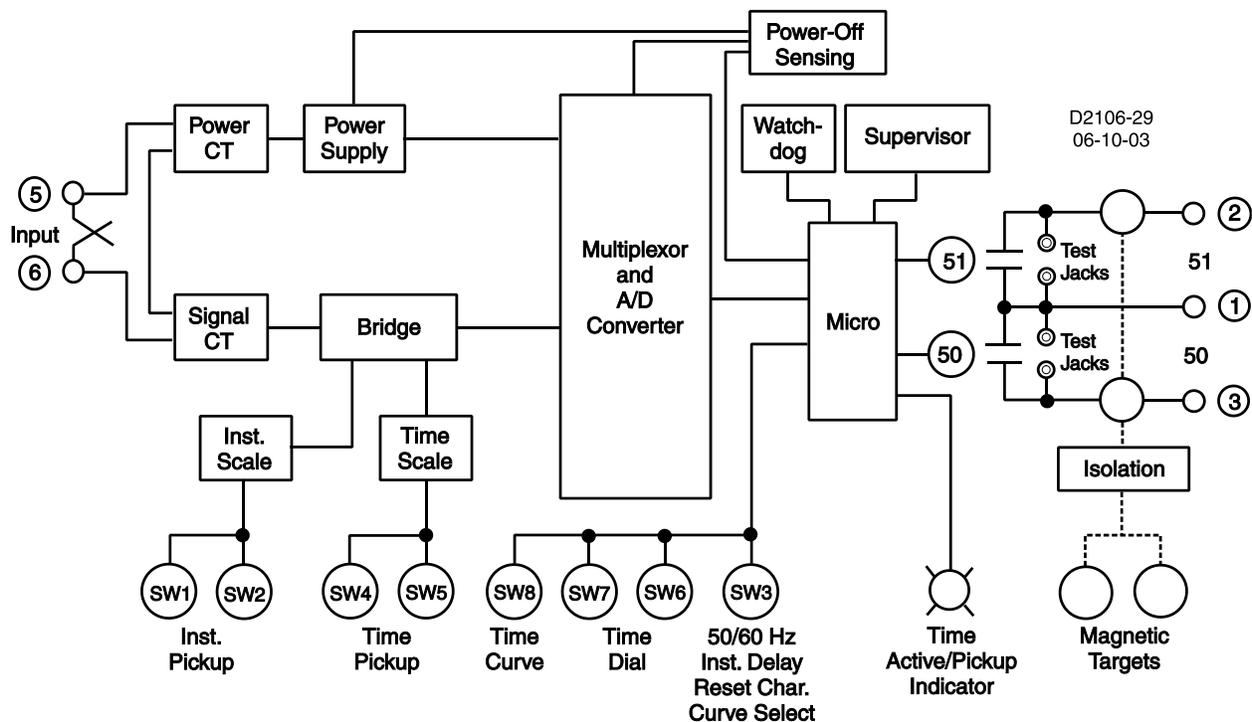
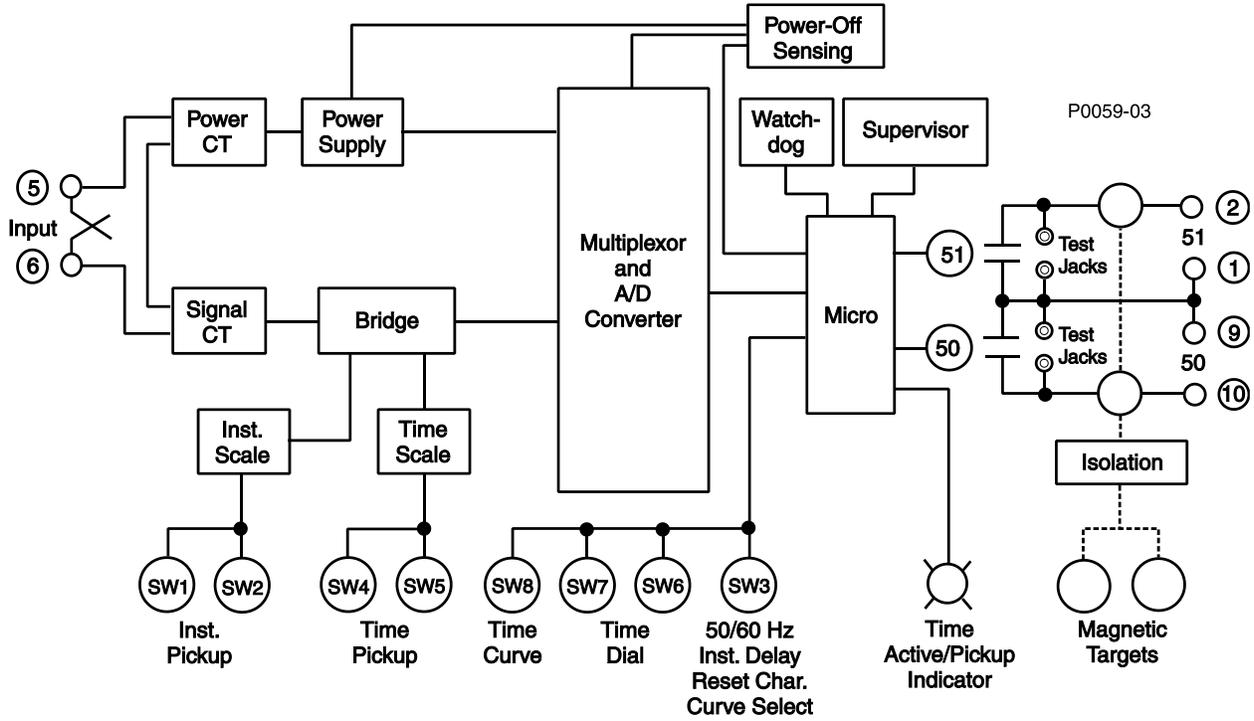
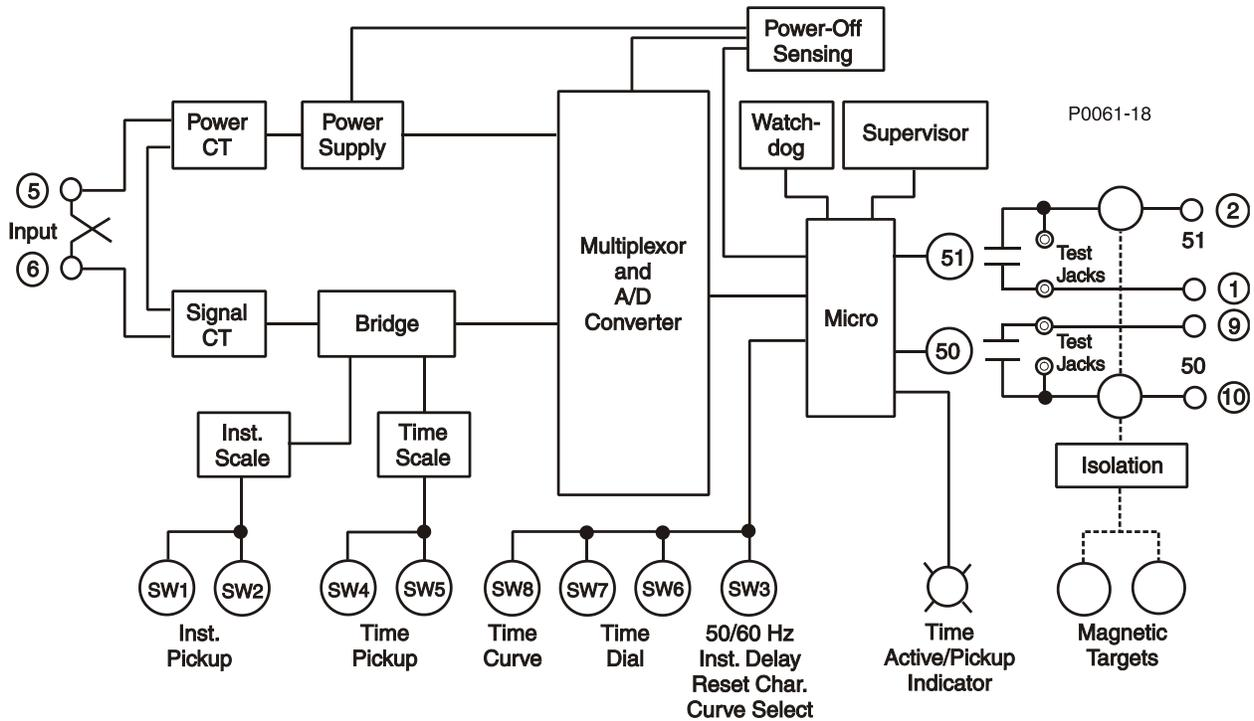

Figure 3-1. Functional Block Diagram, BE1-50/51B-214/-225
Figure 3-2. Functional Block Diagram, BE1-50/51B-215
Figure 3-3. Functional Block Diagram, BE1-50/51B-223
Single-phase ac current from system current transformers (CT) is brought into the Overcurrent Relay at terminals 5 and 6. Refer to Figure 3-1 to follow the functional description for the BE1-214/-225. Refer to Figure 3-2 to follow the functional description for the BE1-50/51B-215. Refer to Figure 3-3 to follow the functional description for the BE1-50/51B-223. The input current is applied to internal power and signal CTs.